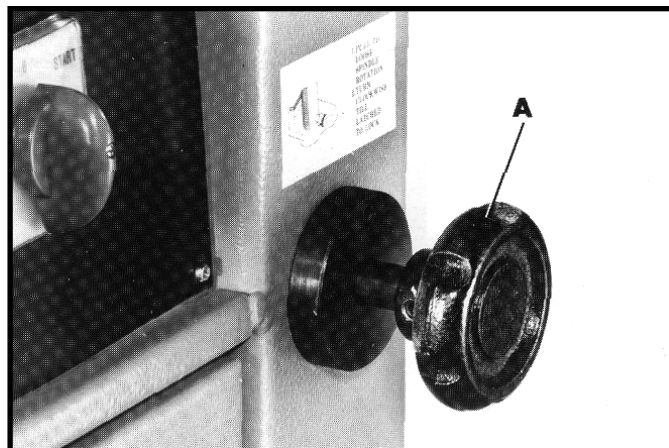
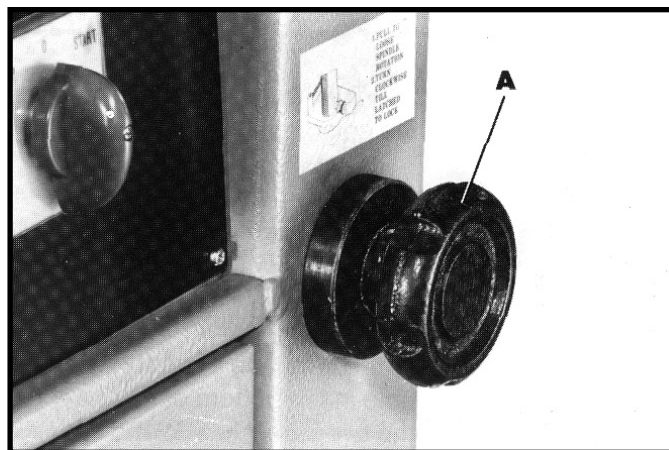

Fig. 27
Fig. 28
1. A spindle lock is provided with your shaper to assist you when changing spindles or installing and removing cutters. To position the spindle in "loose spindle" (where the spindle will rotate freely), pull out knob (A) Fig. 27, and turn it clockwise. The knob (A) will then be latched in "loose spindle." Figure 27 illustrates the knob (A) pulled out in the loose spindle position.
2. To engage the spindle lock, turn knob (A) Fig. 27, counterclockwise and push in to the locked position, as shown in Fig. 28. With the spindle in the locked position, the spindle will not turn, allowing you to change cutters or spindles.